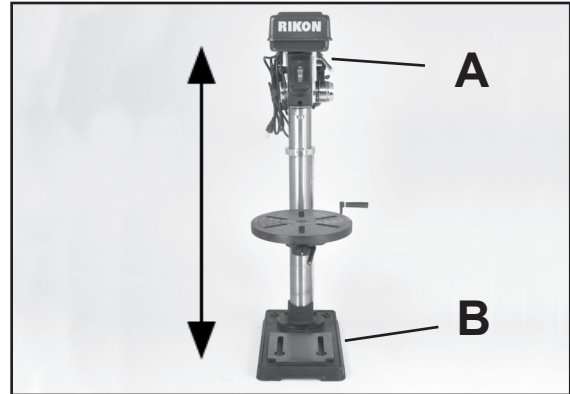

Figure 6
2. Align the drill press head (A-Fig. 6) with the base of the drill press (B-Fig. 6).